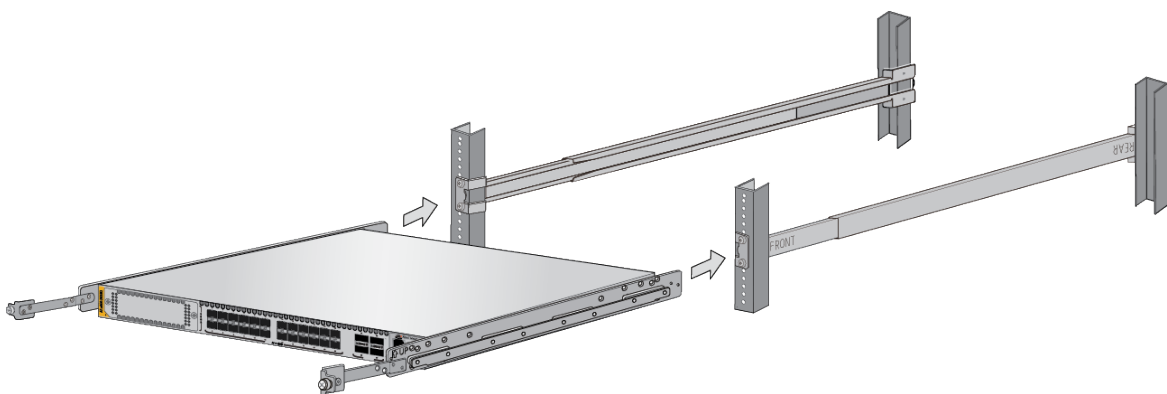

Figure 116. Sliding the Inner Rails on the Switch into the Outer Rails
1. Install the switch in the sliding rack by sliding the inner rails into the outer rail grooves. Refer to Figure 116.